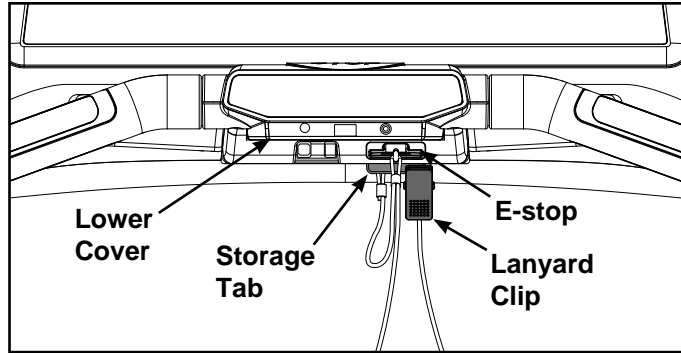

Figure 29
- Pull the e-stop out of console and unclip the lanyard clip from storage tab on lower cover. See Figure 29.
- A. Clip lanyard onto storage tab on lower cover and plug e-stop into console. See Figure 29.